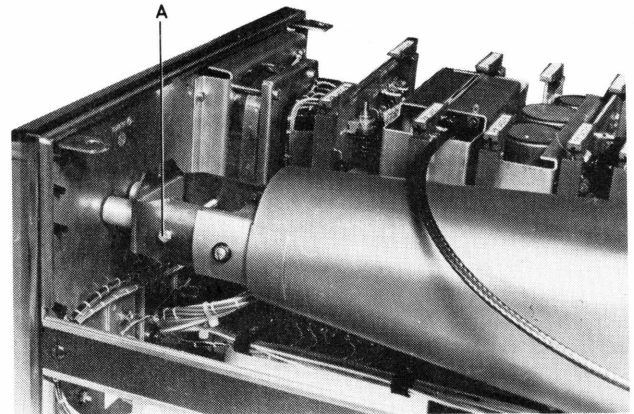

Fig. IX-2 Removing the c.r.t.
- Loosen screw A (Fig. IX-2).
- Tighten screw A (Fig. IX-2).